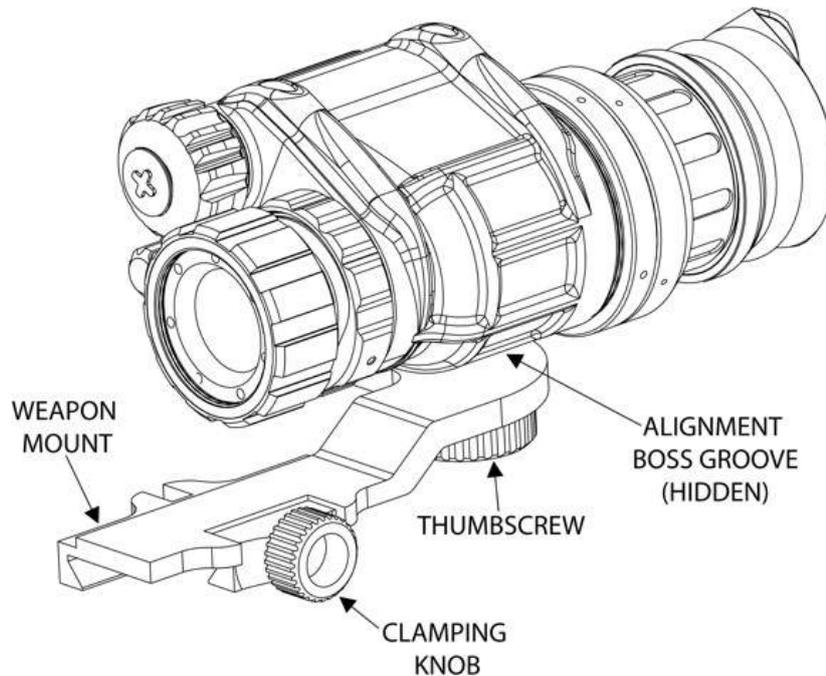

Figure 2-3 Weapon Mount Adapter Installation
1. Orient the monocular and weapon mount as shown in figure 2-3. Be sure to align the connector on the weapon mount with the connector on the monocular.